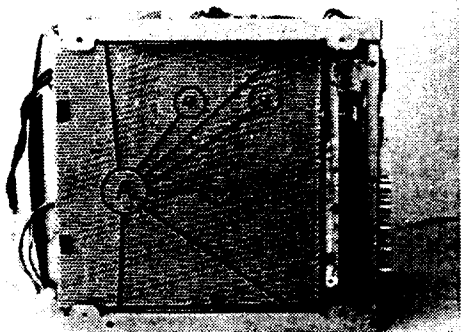

Fig. 1.
- (a) Remove the (7) screws marked "A" as shown in Fig. 1.